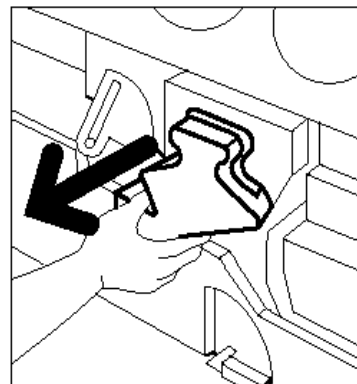

Figure 21: Removing the old Developer Waste Container
- 4** Grasp the Developer Waste Container with your right hand. Pull the Developer Waste Container completely out of the copier/printer, as illustrated in Figure 21.